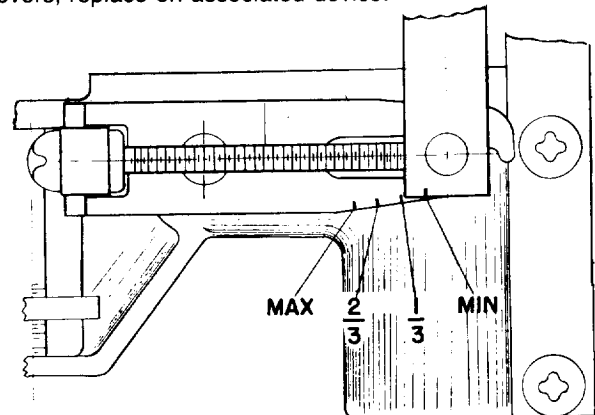

FIG. 122 — TIME-ADJUSTMENT INDEXING
The tripping time may be varied within the limits shown on the characteristic curves by turning the time adjustment screw (4). Turning in a clockwise direction increases the tripping time; counterclockwise motion decreases it. The dashpot arm (8) is indexed at four points, MIN-1/3-2/3-MAX, as indicated in Fig. 122. When the index mark on the connecting link (9) lines up with a mark on the dashpot arm, the approximate tripping time as shown by the characteristic curve is indicated. The 1A and 1B characteristic devices are shipped with this setting at the 2/3 mark and the 1C characteristic at the 1/3 mark. The standard characteristic curves are plotted at these same settings.